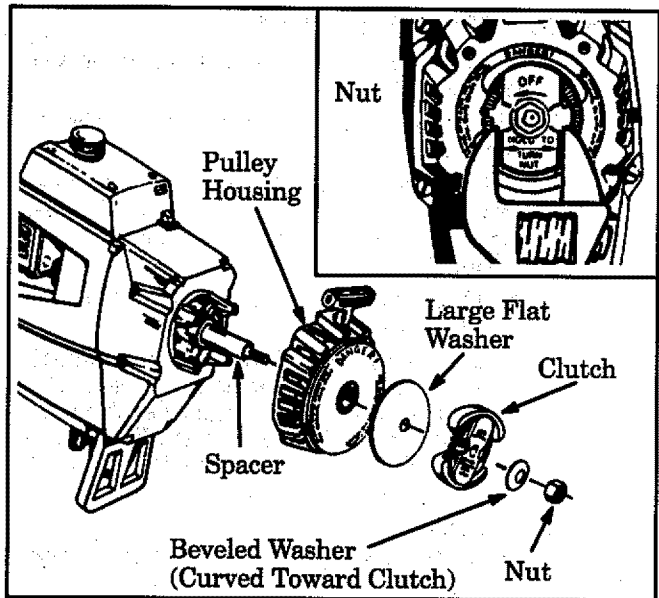

Figure 26
7. Hold the "flats" of the clutch with an adjustable wrench as shown in Figure 26 (inset) and remove the nut counterclockwise with a 9/16" socket wrench.
8. Remove the beveled washer, clutch, and large flat washer as shown in Figure 26 .
9. Remove pulley housing from engine. Figure 26 .
24. Make sure the spacer is in place. Figure 26 . Reverse steps 1 through 10 to re-assemble.